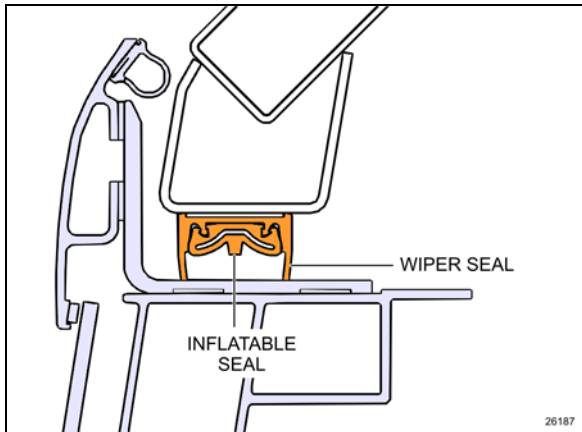

FIGURE 29: INFLATABLE SEAL ASSEMBLY
This procedure is to install the adhesive backed wiper seal (Figure 29) on the structure.
*This procedure is to install the inflatable seal (Figure 29) on the wiper seal.*